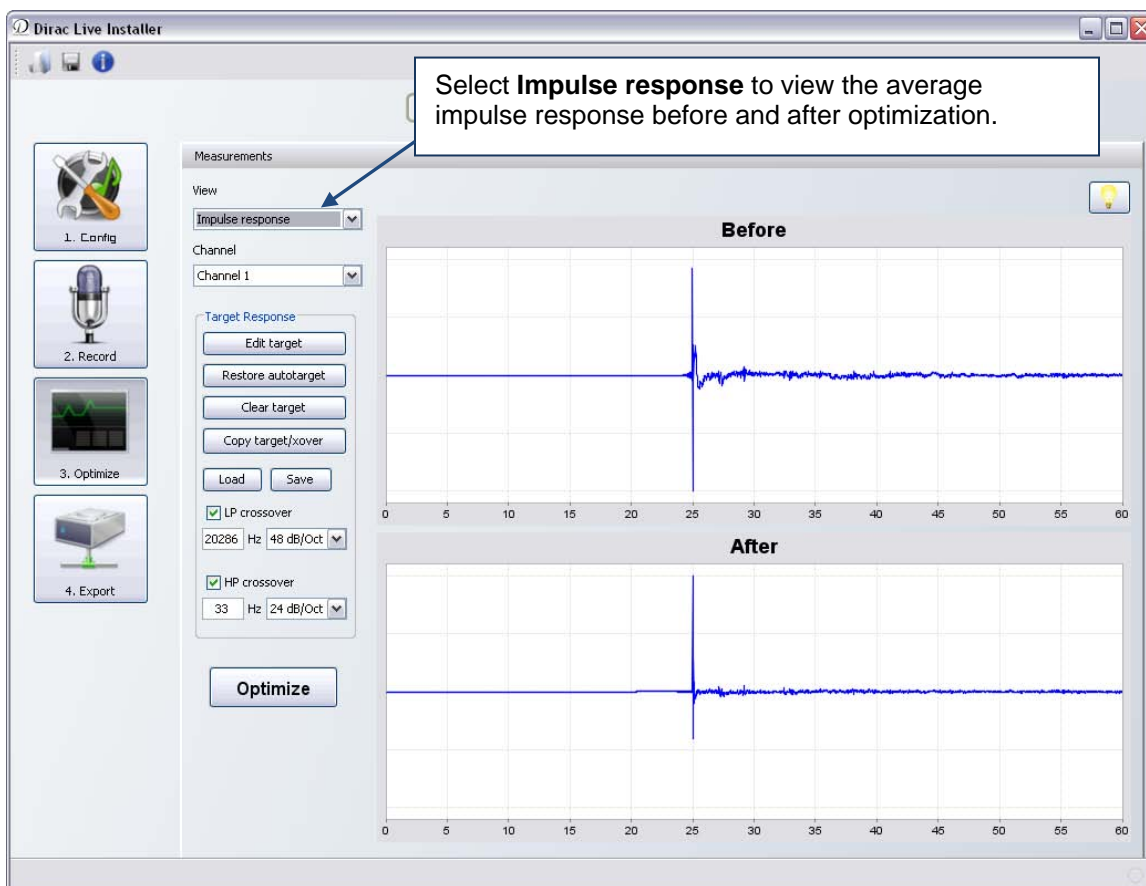

Figure 18. Optimize System Screen
In the example shown below (Figure 18) the upper plot shows a situation where the cones were flabby; they were not being properly centered. There was a discrepancy between upper and lower loudspeakers in a two-way system. The lower plot shows the target, the expected improvement after optimizing the time elements.
5. To view the average impulse response before and after applying Dirac Live®, select the Impulse response view. See Figure 18.